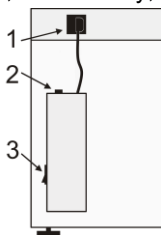

Figure 13.
8.2.2. Fuse for the mains outlets (for models with built-in mains outlets). Disconnect the unit from the electric circuit. Open the fuse holder by screwing off the holder lid (fig. 13/2 or 14/FU1). Check the fuse and replace, if necessary, **M** 5.0 A (type **M** - time lag: **Medium**).